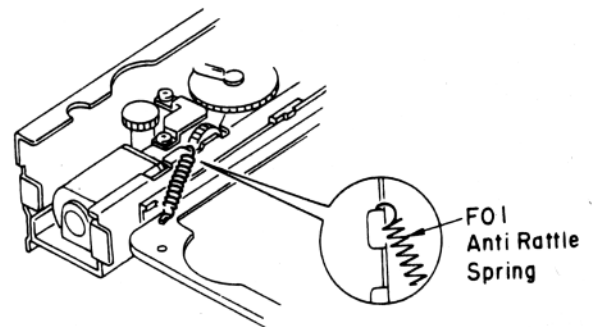

Fig. 2.12.3
- (4) Hook F01 (Anti Rattle Spring SL) on F03 (Motor Chassis SL Ass'y) as shown in Fig. 2.12.3.